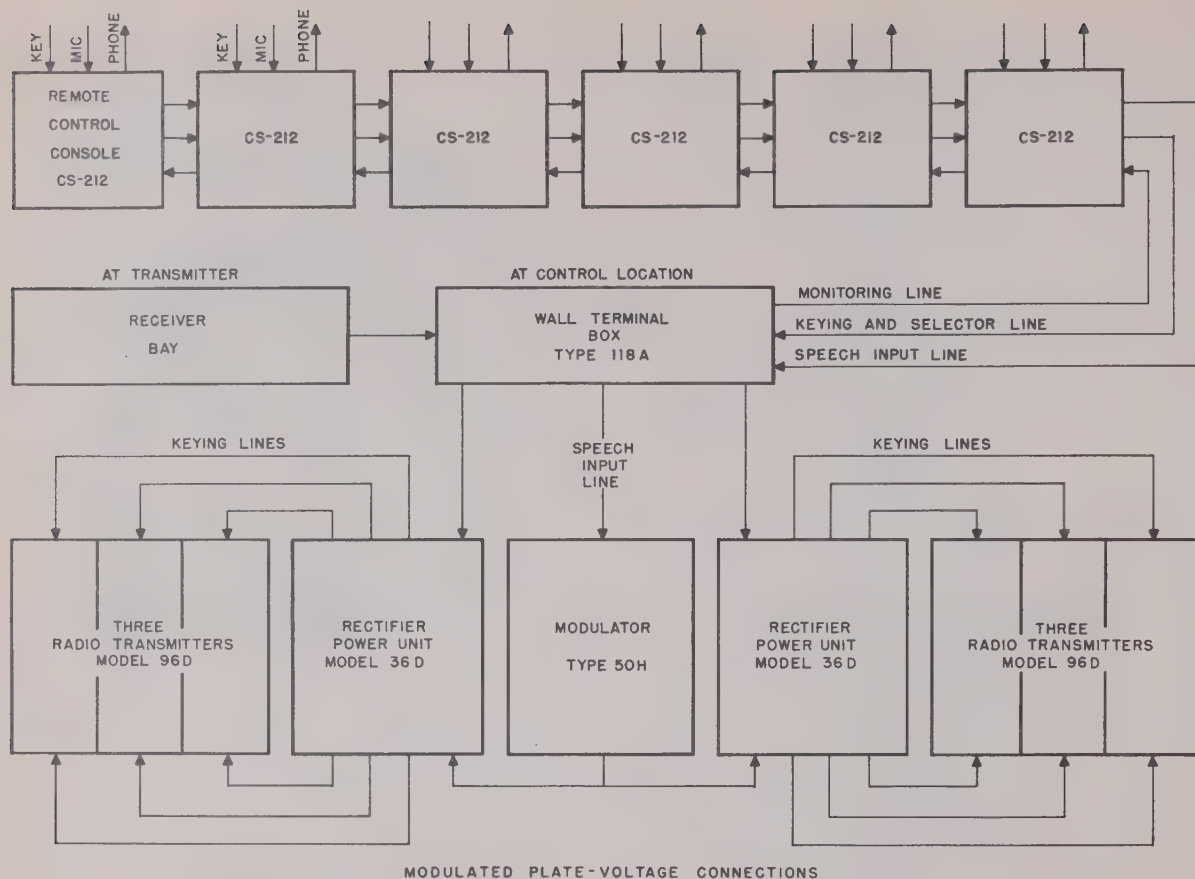

Figure 5. Block diagram of complete installation
(1) The transmitter can be amplitude-modulated from a separate source such as Wilcox Modulator Type 50H. Rectifier Power Unit Model 36D furnishes the power for the transmitter. Remote Control Console Model CS-212 can be used to control the operation of the transmitter. This equipment is intended for use as a fixed field station. A typical and complete installation is shown in figure 5.
Figure 5 is a simplified block diagram showing a typical installation that uses six transmitters, two rectifiers, and the associated modulator and controlling equipment. Power is supplied to the transmitters from the rectifiers and modulated plate voltage is supplied from the Wilcox Modulator Type 50H. The transmitting equipment is usually controlled by Remote Control Console CS-212. With this type of remote control, any number of transmitting channels up to nine may be controlled. Two Rectifier Power Units Model 36D are required to supply the power for four or more transmitters.